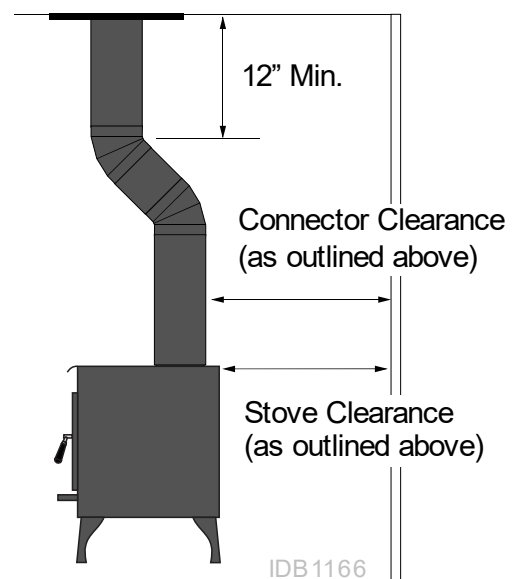

Figure 6
- If using offsets, use the connector clearance listed in Figure 6, **not the connector manufacturer's clearance.**